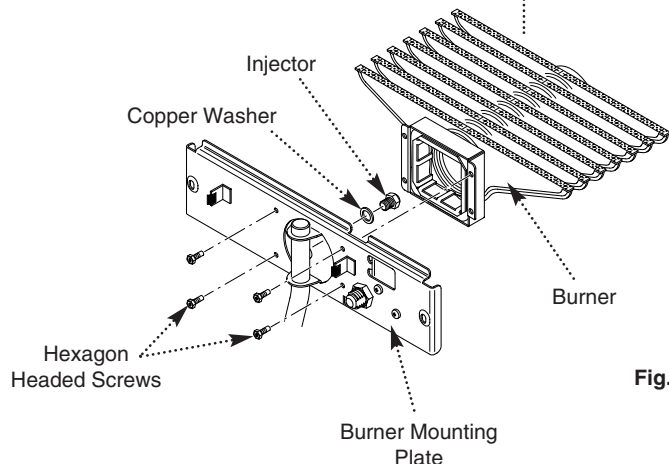

Fig. 62
2. Remove the four hexagon headed screws holding the burner to the mounting plate (Fig. 62).
3. If required the main injector can be unscrewed from the feed pipe and replaced. The copper sealing washer must be retained for re-use or replace if damaged (Fig. 62).